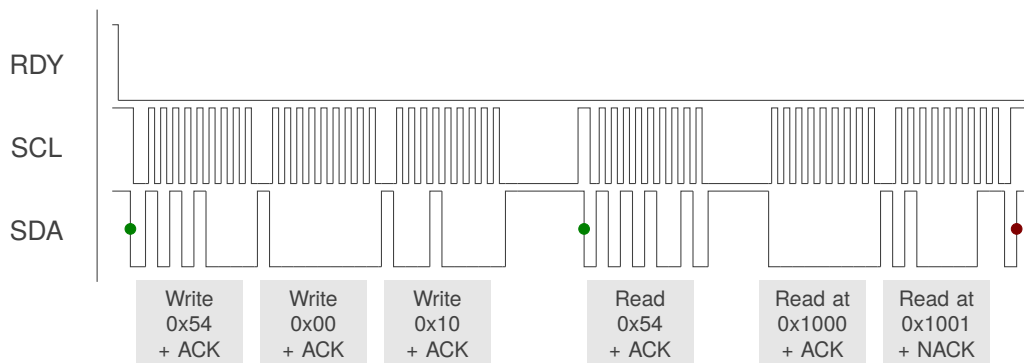

Figure 9.1: I²C Read Example — Read Status Registers 0x1000 and 0x1001
A typical read operation is displayed in Figure 9.1. The master device waits for the RDY line of the IQS324 to go low, indicating the availability of new data and an available communication window. Once the RDY interrupt is triggered, the master initiates communication by sending a start condition followed by the device address and a write command. The IQS324 responds with an acknowledgement, after which the master device will transmit two bytes defining the register address. The master then sends a repeated start condition, followed by the device address with a read command. The IQS324 transmits data from the requested address and will continue to do so while the master acknowledges each byte. The read operation is ended when the master does not acknowledge the last byte received and produces a stop condition.
- > Read the *System Control* Registers (0x1000 and 0x1001) as illustrated in Figure 9.1.
With the *Terminate Comms Window* setting enabled in the *Power Settings* register, a standard I²C STOP ends the current communication window. If multiple I²C transactions need to be done, then they should be strung together using repeated-start conditions instead of giving a STOP. Allowing an I²C STOP to terminate the communication window is the recommended method, as illustrated in Figures 9.1 and 9.2.